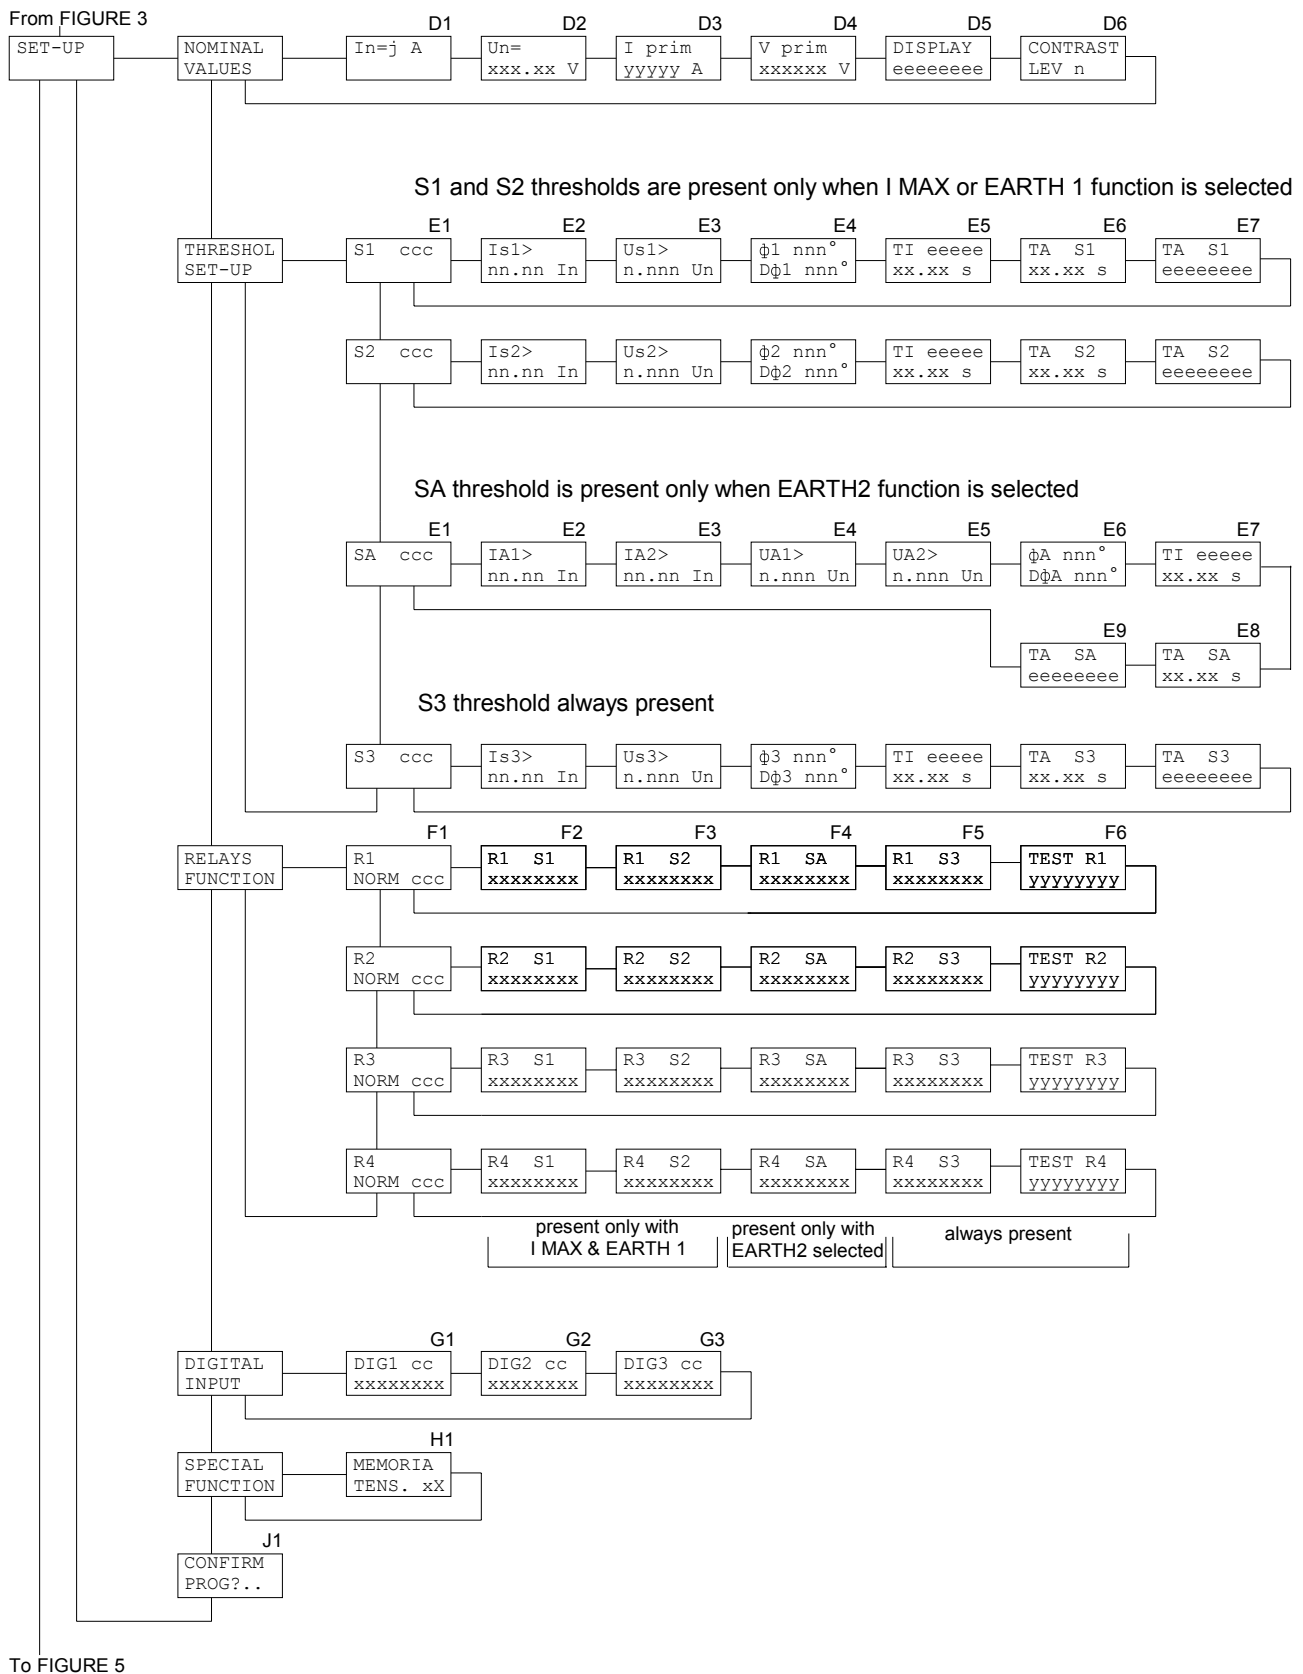

Figure 4
When the output relays test is selected (Fig. 4, ref. F6) it is possible to command an output relay (one at the time) to trip from the current status allowing functional tests on electrical plants.
**5.5 Nominal values set-up (fig. 4)****D1 - NOMINAL CURRENT SELECTION In (programmable)**
## 5.6 Thresholds and time delays set-up (fig. 4)
### 5.6.1 S1, S2 and S3 thresholds programming (fig. 4)